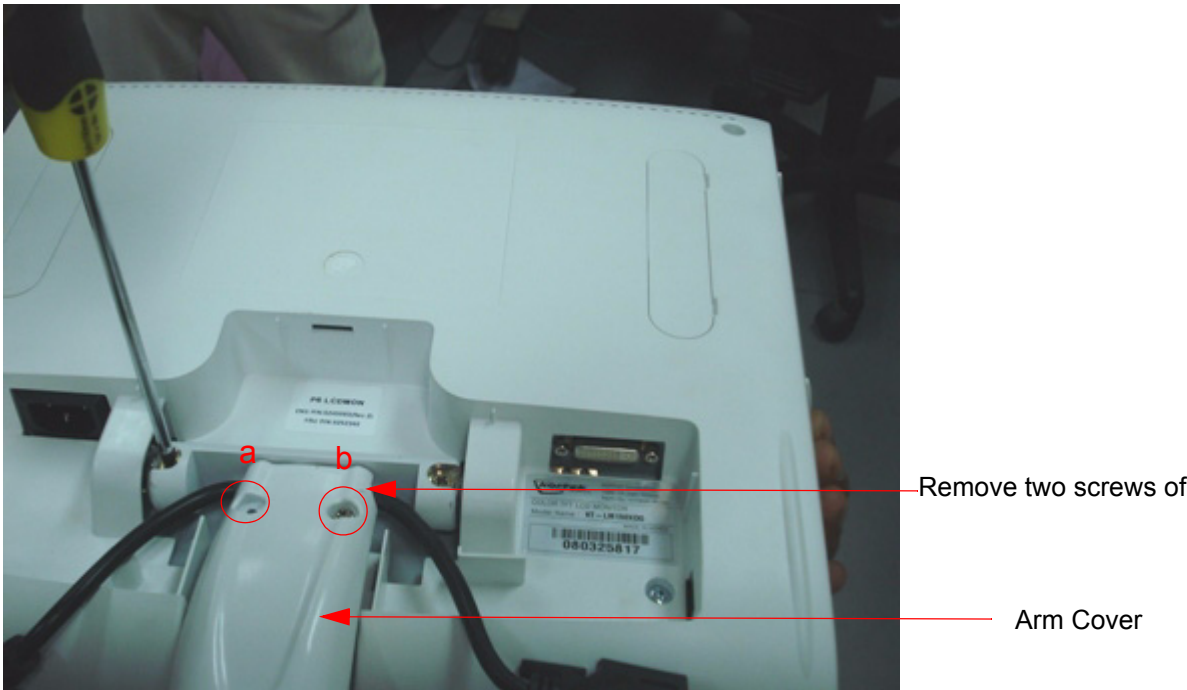

Figure 8-7 LCD Arm cover & monitor neck cover
- Remove LCD-Arm-Cover Assembly as shown below Figure 8-7 on page 8-8